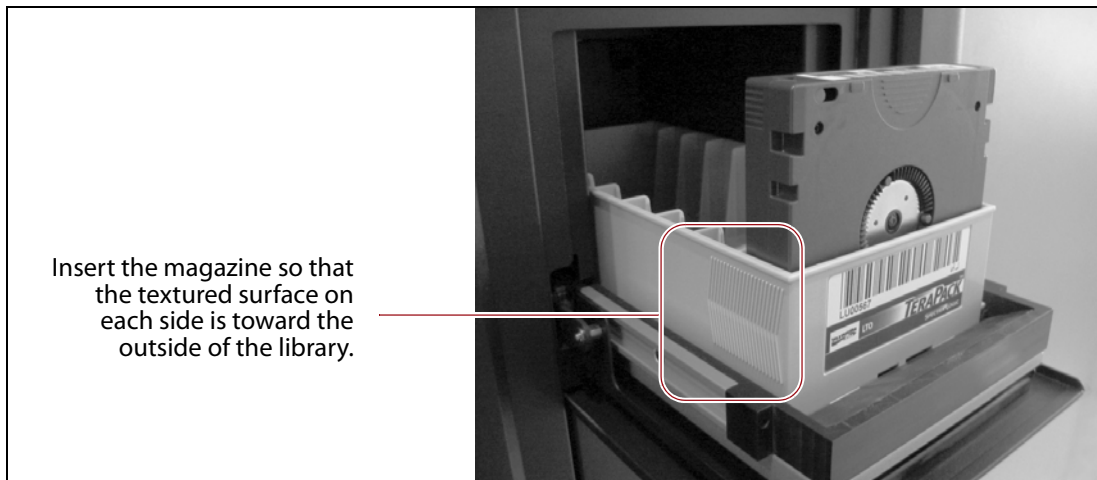

Figure 110 Insert a magazine into the TAP, making sure that it is correctly oriented.
- a. Insert a magazine into the tray on the open TAP, making sure that it is oriented with the textured surface on each side toward the outside of the library, as shown in Figure 110.